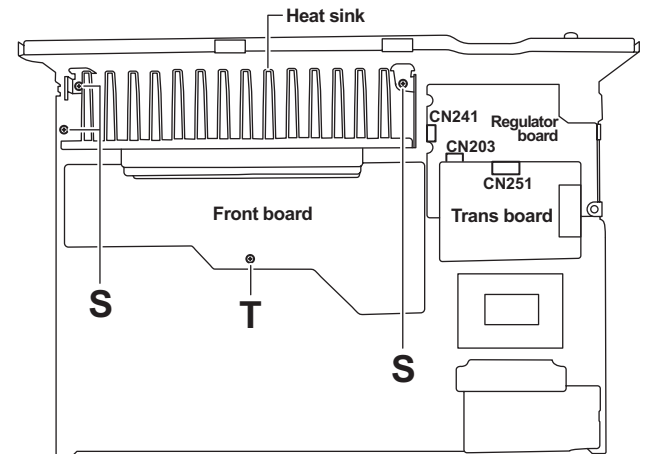

Fig.10
3.1.5 Removing the front board and heat sink (See Fig. 10)